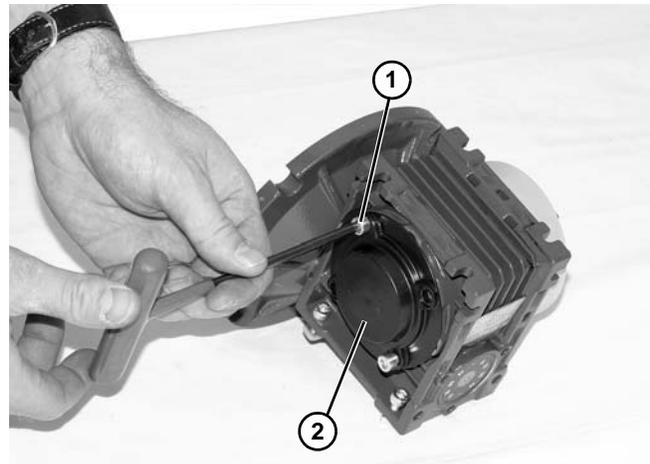

Figure 30
- Remove two (2) screws (**Figure 30, item 1**) and detach output shaft cover (**Figure 30, item 2**).